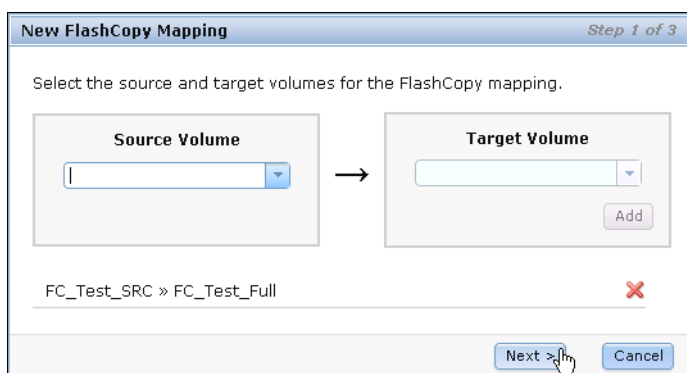

Figure 9-27 Add FlashCopy mapping
- b. After you click **Add**, the FlashCopy mapping is listed (Figure 9-27). Click the red X if the FlashCopy mapping is not the one you want to create. If the FlashCopy mapping is what you want, click **Next** to continue.